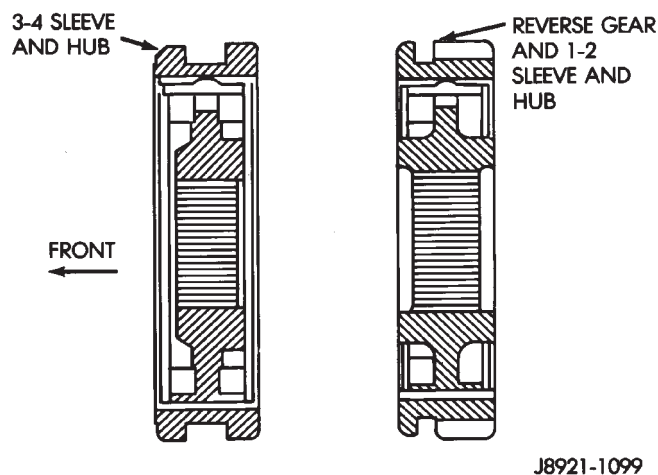

Fig. 74 Synchro Sleeve And Hub Identification
- (4) Assemble 1-2 and 3-4 synchro hubs and sleeves (Fig.74).